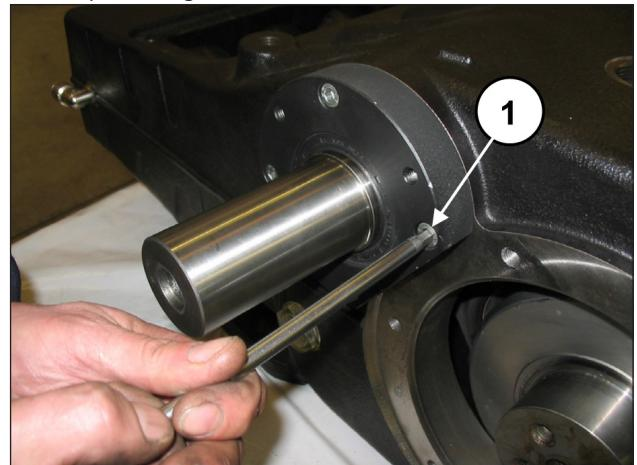
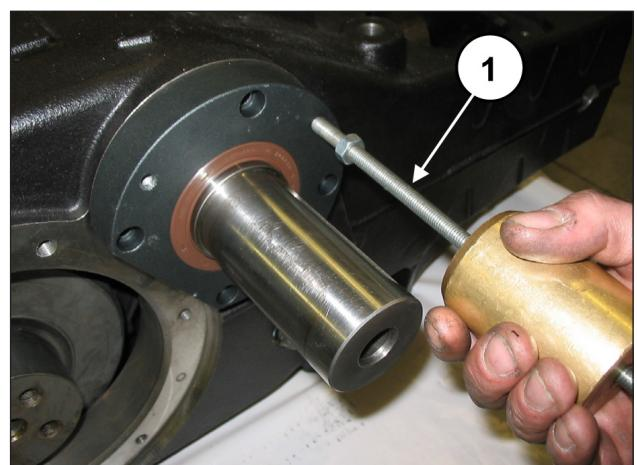

Fig. 26
Fig. 27
Unscrew the fixing screws of the left and right PTO bearing cover (pos. ①, Fig. 26) and withdraw two covers from the PTO shaft. To help with their removal, use 3 x M8 grub screws or screws (pos. ①, Fig. 27) as extractors.